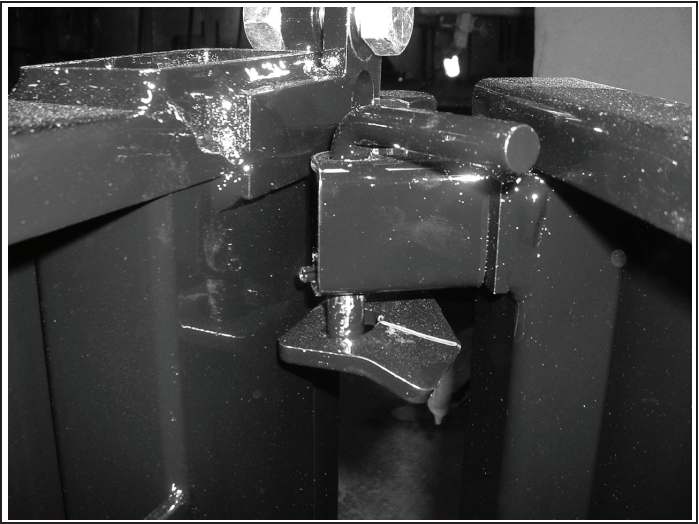

Figure 5-8 – Secure Rear Doors
- Open and secure rear doors with pins. See figure 5-8.